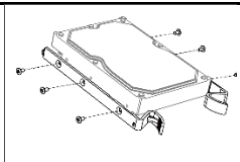

Figure 2-4 Fix Mounting Ear
**Step 1** Fix mounting ears to HDD with screws. Refer to Figure 2-4.